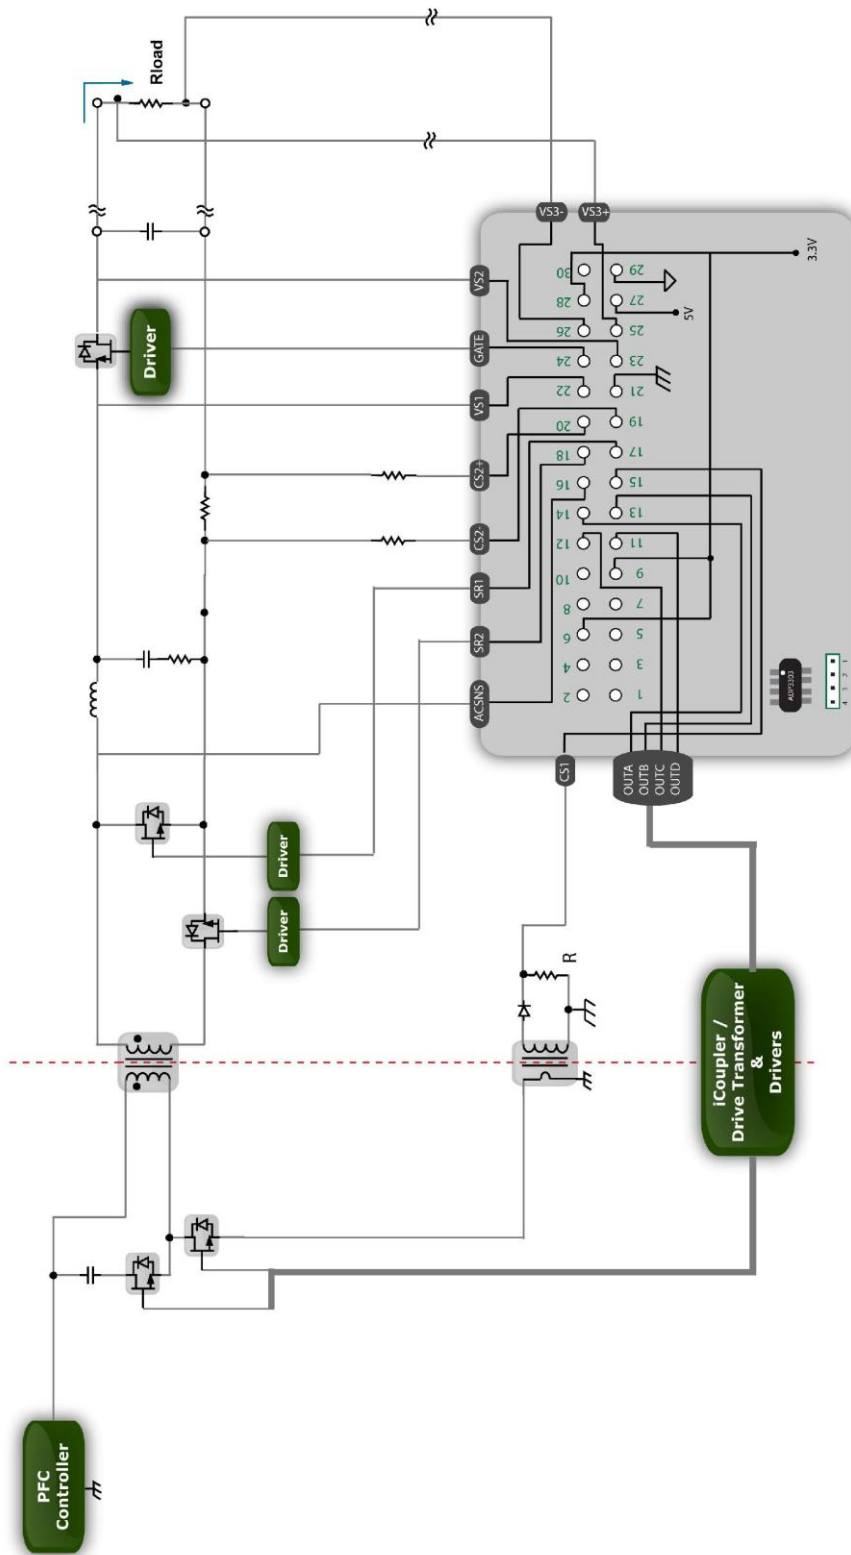

Figure 8 - Block diagram of power stage and interconnection with daughter card
10. The CS1 signal is referenced to PGND. Care must be taken not to exceed 1.55V as it exceeds the maximum range of the ADC. The CS1 fast OCP comparator is set to trip at 1.2V. When using a current sense transformer the resistor R (see Figure 8) is sized by the equation: